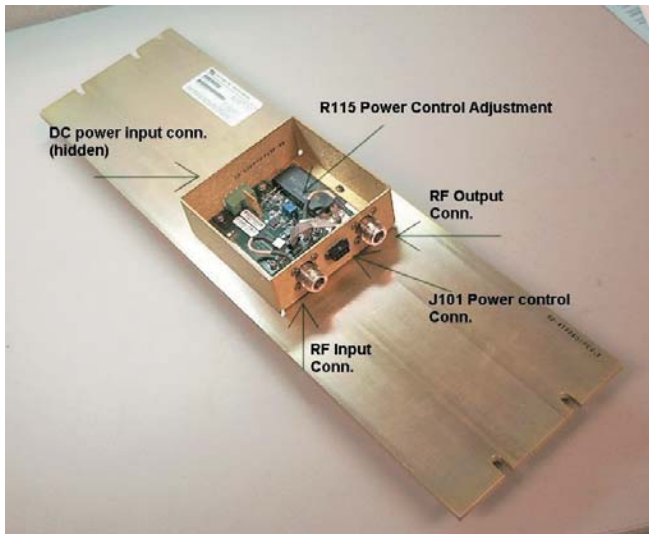

Figure 1. MDS eNETL2 Series RF Power Amplifier
- If necessary, adjust R115 (see Figure 1) with an insulated flat blade tool to achieve the desired output level. Access to R115 is available through a top cover vent slot.